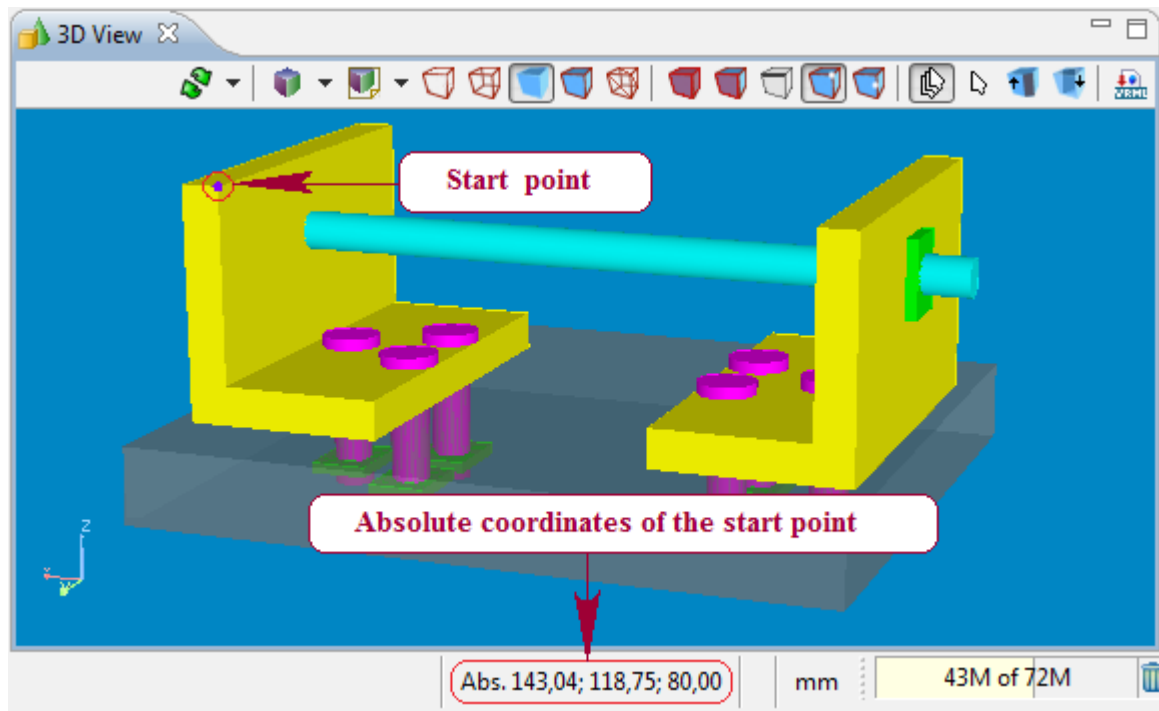

Figure 3. Start point on geometry model, absolute coordinates of the start point in status bar
- Fly by with a mouse pointer over the 3D object. The point flashes up for all near points. The absolute coordinates ('Abs.') of these points are displayed in the status bar (see Figure 3).